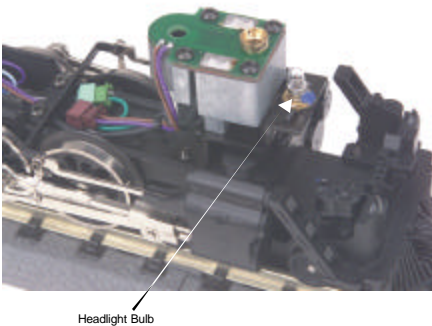
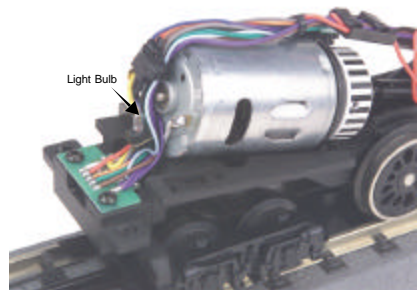

Figure 6
Figure 7
2. Remove the boiler by removing the body mounting screws shown in Fig. 6
3. Remove the Phillips screw (marked “GREASE”) located at each set of wheels (Fig. 6) and the gearbox cover screws (Fig. 7).
You should also grease the leading and trailing locomotive truck tongues to enhance their ability to slide on the chassis. Follow the grease points shown on Fig. 6.
1. To replace the headlight in this model you will need to follow the disassembly instructions for greasing the engine in figure 6 on pg. 13. Once the boiler has been removed you can access the headlight (see figure 6).
heating element. To remove the smoke unit you will first have to remove the boiler shell (by removing the body mounting screws shown in Fig. 6 on pg. 13).